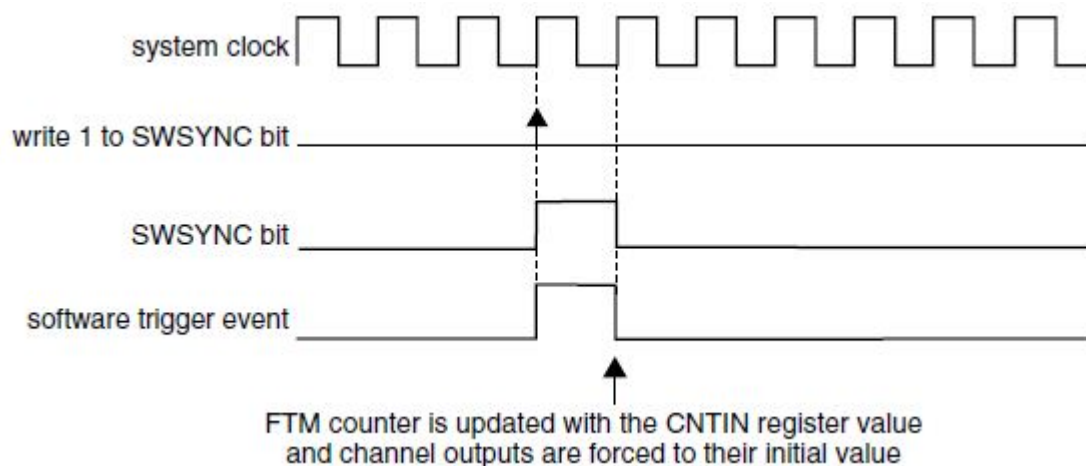

Figure 7. FTM counter synchronization with SYNCONF[SYNCMODE] = 0, SYNC[REINIT] = 1, MODE[PWMSYNC] = 0, and software trigger was used
- If the trigger event was a software trigger, then SYNC[SWSYNC] is cleared according to the example shown in Figure 7.